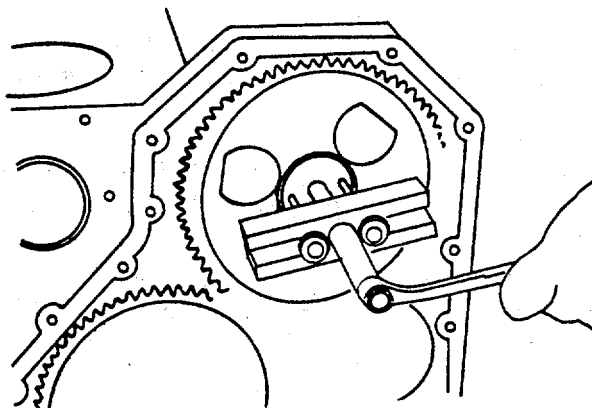

FIGURE 2-30. Fuel Pump Drive Gear Removal.
- f. Use a 75mm T-Bar Puller; pull the pump drive gear loose from the drive shaft. The puller hole threads are M8 x 1.25. (FIGURE 2-30).